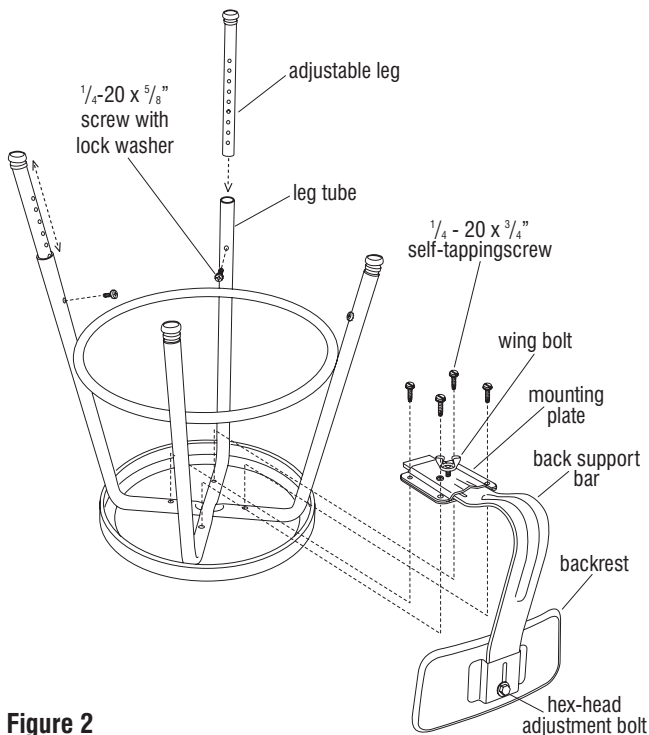

Figure 2
1. Remove adjustable legs from the parts bag. Using a #3 Phillips screw driver, unscrew the $\frac{1}{4}$ -20 \times $\frac{5}{8}$ " screws with lock washers from each adjustable leg (Figure 2).
2. Carefully turn stool upside down on a soft protective surface. Slide each adjustable leg into the leg tube of the stool frame and align the mounting holes to the desired stool height. Using a #3 Phillips screw driver, thread each screw through the mounting hole in the leg tube, and into the adjustable leg until the lock washer fits snugly. Tighten all screws securely (Figure 2).
1. Carefully turn the stool upside down onto a soft protective surface and place the mounting plate of the backrest assembly over the pre-drilled holes in the crossed legs, as illustrated. Insert four $\frac{1}{4}$ -20 \times $\frac{3}{4}$ " self-tapping screws through the pre-drilled holes in the mounting plate and into the crossed legs. Tighten to secure (Figure 2).